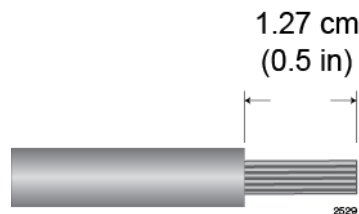

Figure 117. Stripping the Stranded Grounding Wire
1. Prepare an adequate length of stranded 10 AWG grounding wire by stripping it as shown in Figure 117.